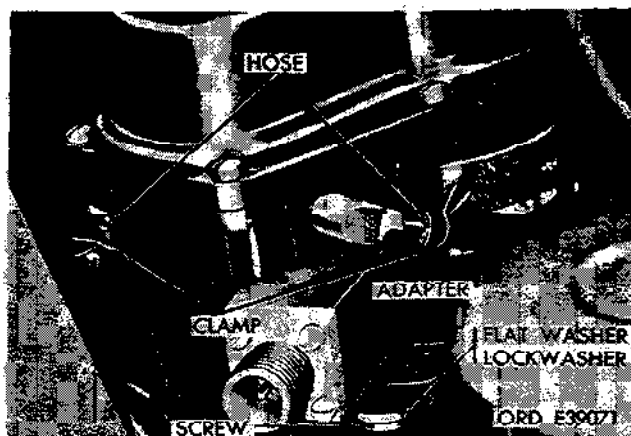
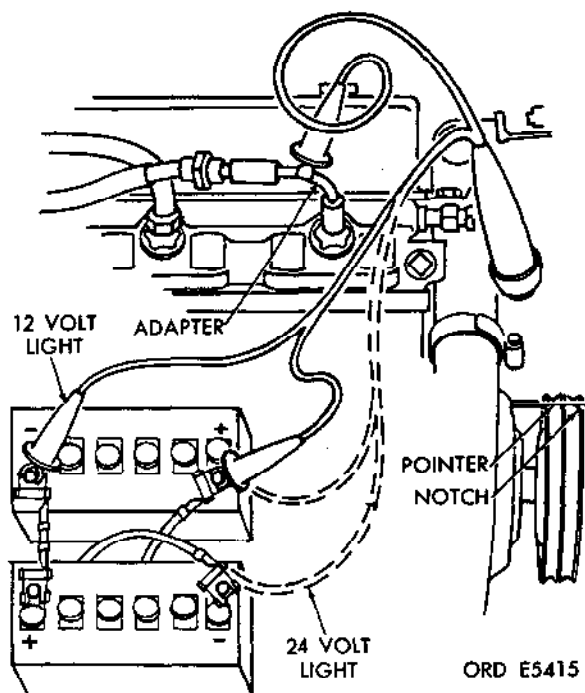

Figure 2-147. Pull vent hoses and remove mounting screw.
Figure 2-160. Schematic showing hook-up for ignition timing using timing light and adapter.
(3) Remove clamp and remove vent hoses. Remove distributor mounting screw, flat washer and lockwasher located at slotted hole in adapter (fig. 2-147).
(3) Tighten distributor to adapter mounting screw to a snug fit (fig. 2-147).
(4) Install cap and cover assembly. This procedure alone is not adequate for good engine performance. Perform precise timing procedure, below.
e. Precise Timing. Refer to figure 2-160 for an